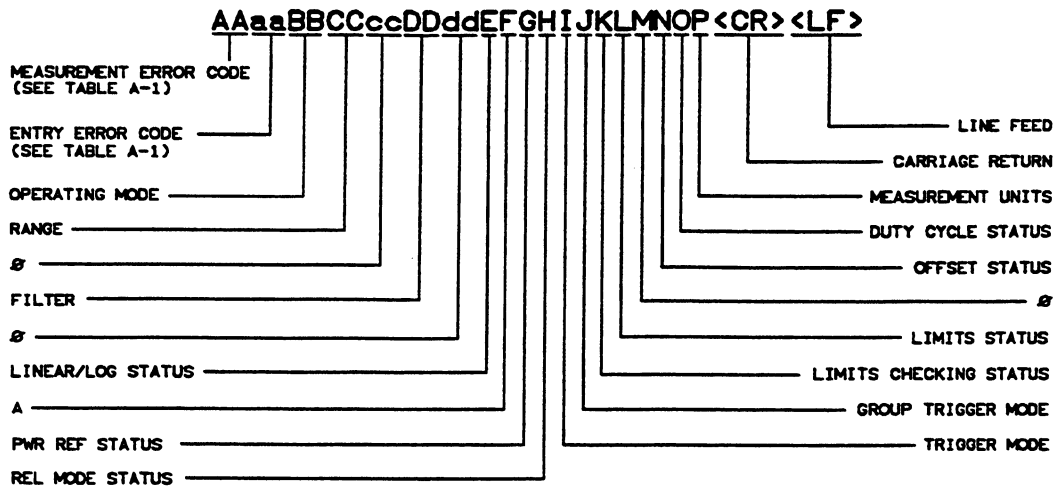

Figure 7-2. Status Message Format
This function enables the power meter's current state to be read under program control. After receiving an SM program code (Status Message) and when addressed to talk, the power meter sends a string of 26 ASCII characters followed by a carriage return (CR) and a line feed (LF). With the last byte of the string, the power meter sets the EOI line true. The Status Message is updated only after a measurement. The Status Message can be interpreted with the information shown in Figure 7-2 and Table 7-2.
Program code SM enables the Power Meter's current state to be read. Measurement parameters, measurement errors, and entry errors are shown. Refer to Figure 7-2, Status Message Format. If the queue contains more than one error, program code SM will return the oldest measurement and entry errors. Any additional errors will be cleared from the queue. When the queue is empty, zero will be sent in response to SM.